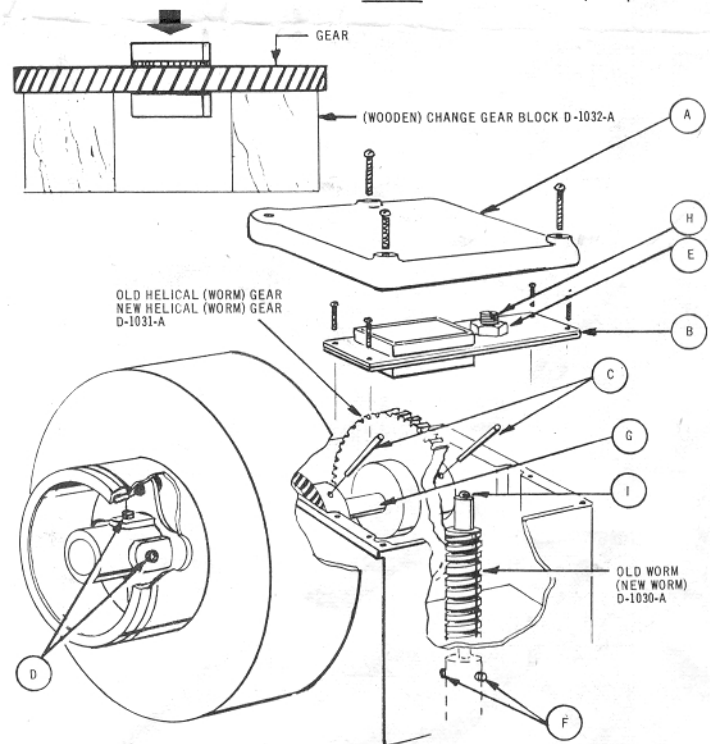

FIGURE 3. HELICAL WORM GEAR AND WORM
3. INSTALLATION OF NEW WORM AND HELICAL (WORM) GEAR (See Fig. 3):
- Remove gear box cover "A" (Fig. 3). Do not lose screws.
- Tap out the taper pins "C" (Fig. 3) with a 3/32" drift punch. Be sure to drive the small ends of the taper pins.
- Loosen the set screws "D" (Fig. 3) nearly all the way out and remove the "Spider".
- I. Place the old helical worm gear on the wooden "Gear Change Block D-1032-A" provided (Fig. 3) and tap the gear from its hub. Place a piece of wood on the end of the hub for tapping purposes. Do not strike the hub directly with the hammer. Tap the new Helical Worm Gear D-1031-A on the old hub in the same manner except turn the hub over and place the new "Helical Worm Gear" between the hub and the wooden "Change Gear Block".
- K. Re-assemble the gears, shaft and "Spider" in the reverse order of dis-assembly being careful to match the large end of the holes in the gear hubs to the large end of the holes in the shaft when replacing the taper pins "C" (Fig. 3). Also, be sure to replace the two washers between the fly-wheel and the gear box (see paragraph H) and the heavy thrust washer between the inside wall of the gear box and the face of the helical gear.